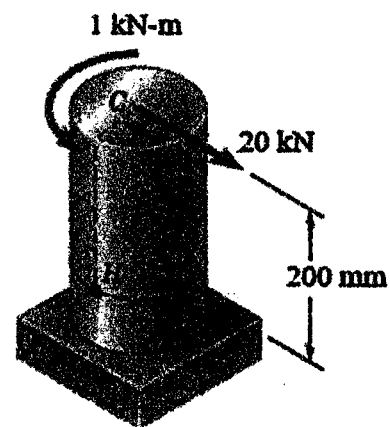

Fig. 2
- A 20-kN force and a torsion of 1 kN-m are applied at the top of the 60-mm diameter solid post shown in Fig. 2. Point H is 200-mm below the top of the post (see Fig. 2). Determine the principal stresses and in-plan maximum shear stress at Point H. (25%)